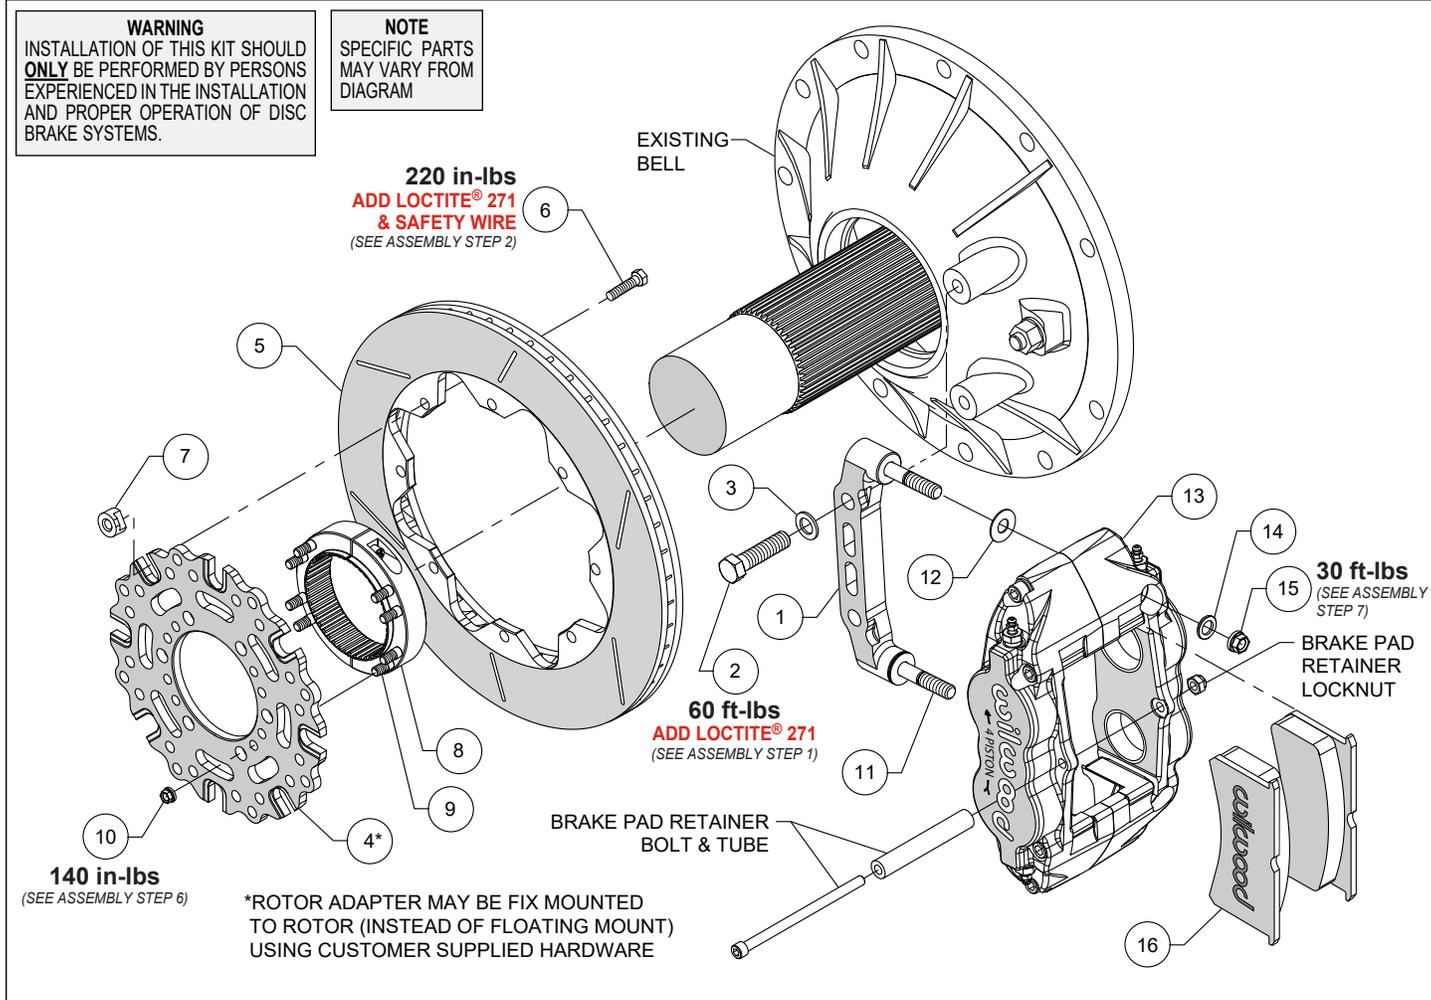

Figure 1. Typical Installation Configuration
NOTE: Numbers in parenthesis refer to the parts list and Figure 1 on the preceding pages.
STEP 1 Orient the caliper mount bracket (1) as shown in Figure 1 and install using bolts (2) and washers (3). Temporarily tighten the mounting bolts. **NOTE:** The bracket must fit squarely against the mount bosses on the bell. Inspect for interference from casting irregularities, machining ridges, burrs, etc. Remove the bracket mounting bolts one at a time, apply red *Loctite*® 271 to the threads, and torque to value shown in Figure 1.
STEP 2 Orient the rotor adapter (4) and the rotor (5), as shown in Figure 1, and attach using bolts (6) and t-nuts (7), Figure 1. Apply red *Loctite*® 271 to the bolt threads before installing. Finger tighten. After all t-nuts have been installed, torque bolts to value shown in Figure 1 using a criss-cross pattern. Please
STEP 4 Orient the axle clamp assembly (8) as shown in Figure 1 and install onto the rotor adapter (4) using nuts (10). Tighten nuts part way onto studs (9), while still allowing clamp-to-rotor movement. The nuts will be torqued later, after aligning the rotor. **NOTE:** *The axle clamp should be positioned inside of the rotor as shown in Figure 1, not offset, or outside of the rotor adapter.*
STEP 6 Initially place one .035" thick shim (12) on each stud (11) as shown in Figure 1. Mount the caliper (13) onto the bracket (1) using lock nuts (15) and washers (14), Figure 1. Temporarily tighten the lock nuts (15) and view the rotor through the top opening of the caliper. The rotor should be centered in the caliper. If not, slide the rotor/adaptor assembly on the axle until the rotor is centered in the caliper. Tighten the clamp nuts first, locking the clamp to the axle. Torque nuts (10) to value shown in Figure 1.
STEP 7 Remove the caliper brake pad retainer bolt, tube, and locknut from the caliper. Insert the brake pads (16) into the caliper, with the friction material facing the rotor. Check that the top of the brake pad is flush with the outside diameter of the rotor. If not, adjust by adding or subtracting shims (12) between the caliper and the bracket. After the caliper pad height is set, torque the caliper locknuts (15) to value shown in Figure 1. Secure the brake pads in place with the brake pad retainer tube, bolt, and locknut. The locknut should be snug without play in the bolt or tube. Be cautious not to over tighten.